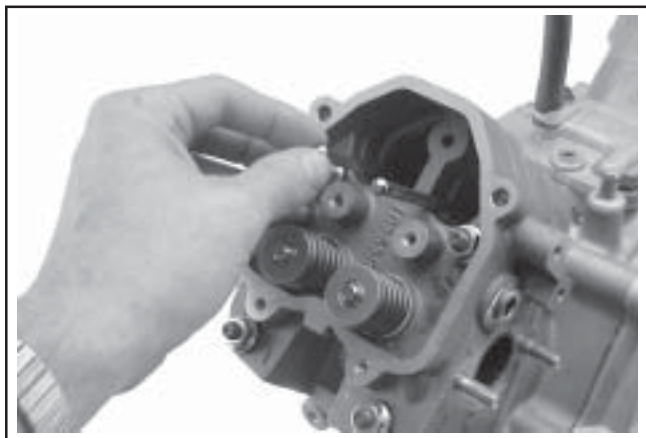

Figure 11-37. Installing Push Rods.
1. Note the mark or tag identifying the push rod as either intake or exhaust for cylinder #1. Lightly apply engine oil or grease to the ends of push rods and install. Make sure that each push rod ball seats in its respective hydraulic lifter socket. See Figure 11-37.